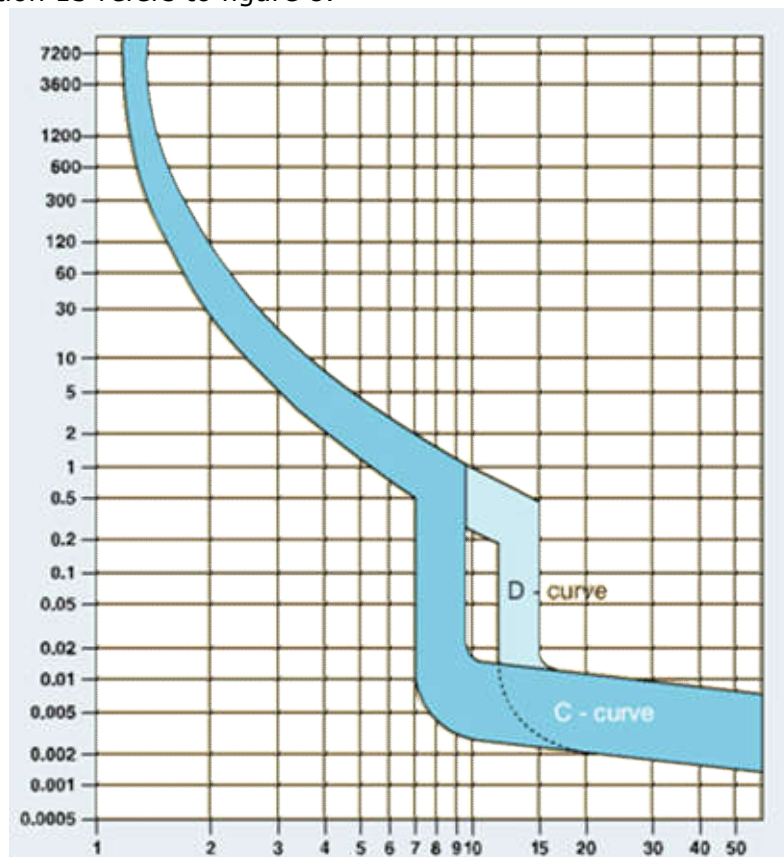

figure 8 – www.clipsal.com.au
Tutorial question 15 refers to figure 8.
- (b) Using figure 8 determine the current I_a .